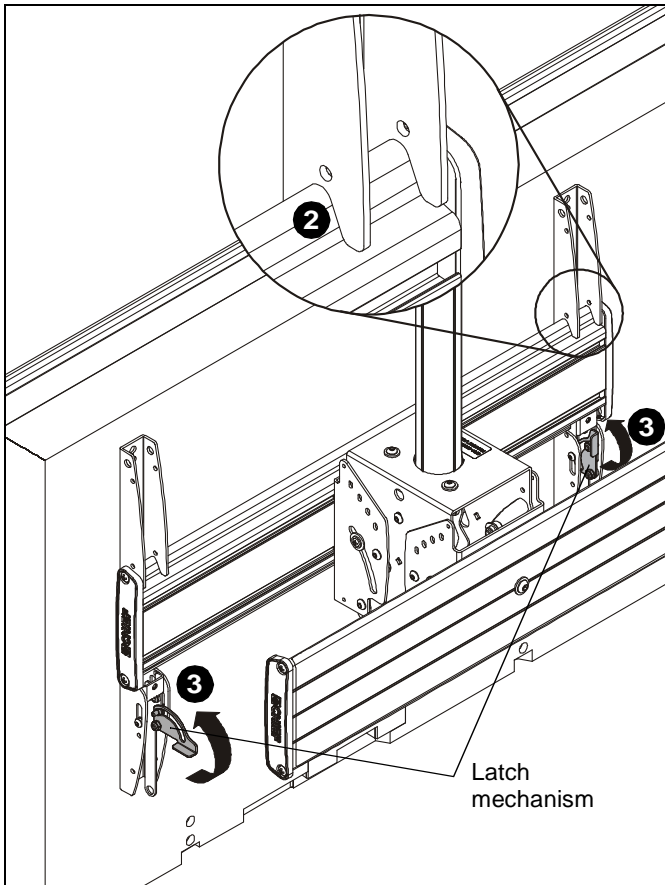

Figure 7
2. While supporting both sides of display, lower display onto ceiling mount, hooking top of interface brackets onto front of ceiling mount. (See Figure 7)
3. Raise the latch mechanism on both interface brackets to lock display in place. (See Figure 7)